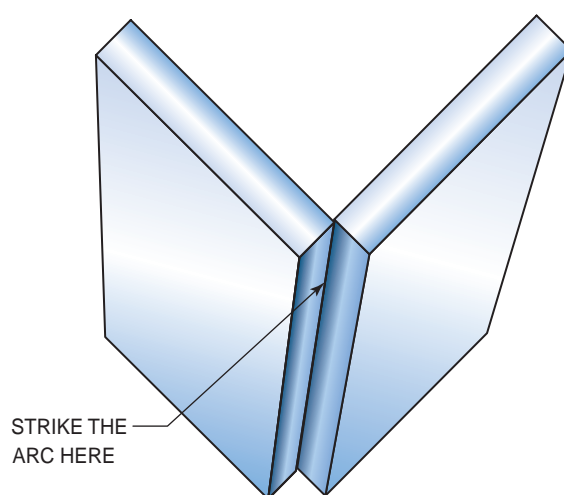

FIGURE 9-66 Strike arc in the joint.
- With the electrode pointed slightly into the joint, **Figure 9-66**, strike the arc in the joint.